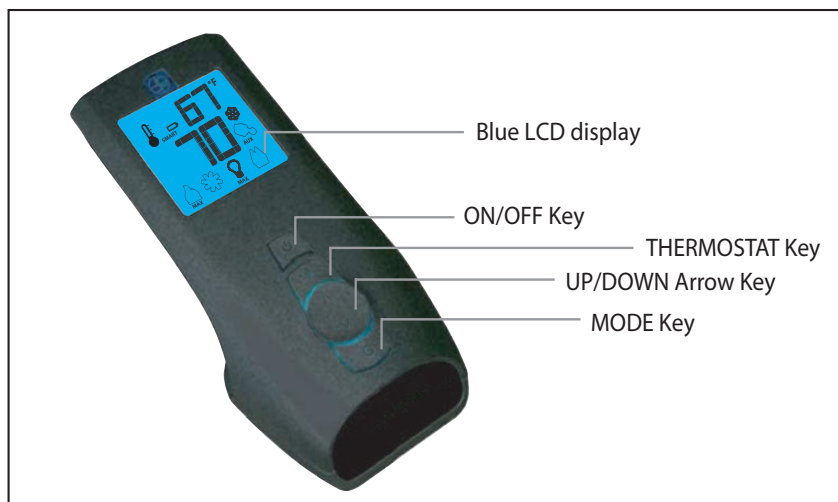
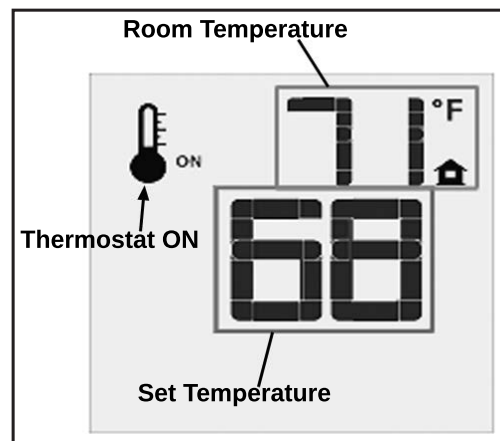

Figure 5: Proflame 2 Transmitter.
Figure 10: Remote Control Displays Set Temperature.
The Proflame 2 Transmitter is a black remote control with a blue backlit lcd display. It uses a streamline design with a simple button layout and informative lcd readout (Figure 5). The Transmitter is powered by three (3) AAA type batteries. A Mode Key is provided to Index between the features and a Thermostat Key is used to turn on/off or index through Thermostat functions (Figure 5 & 6)
Press the ON/OFF Key on the Transmitter. The Transmitter LCD display will only show the room temperature and Icon (see Figure 10). A single “beep” from the IFC confirms reception of the command and both the pilot light (if the unit is not set to continuous pilot) and main burner will turn off.
The Remote Control can operate as a room thermostat. The thermostat can be set to a desired temperature to control the comfort level in a room. To activate this function, press the Thermostat Key (see Figure 5). The LCD display on the Transmitter will change to show that the room thermostat is “ON” and the set temperature is now displayed (see Figure 10). To adjust the set temperature, press the Up or Down Arrow Keys until the desired set temperature is displayed on the LCD screen of the Transmitter.